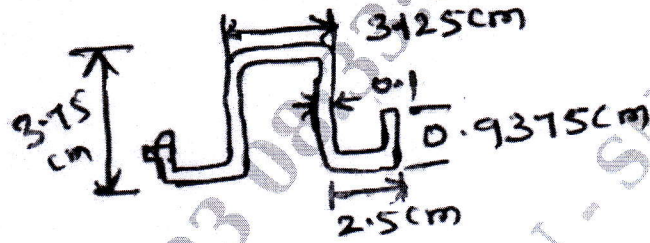

Fig. Q5 (b)
b. Determine the crippling strength of the formed section shown in Fig. Q5 (b).